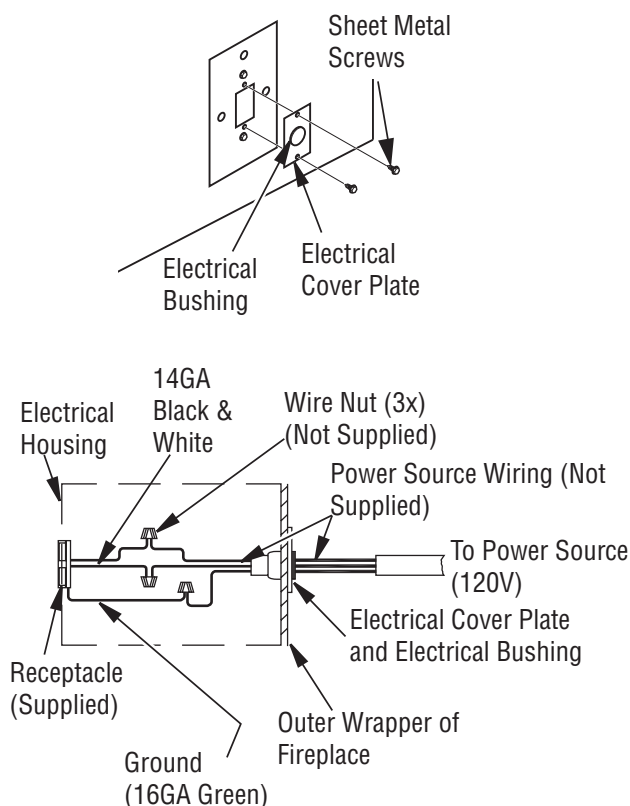

Figure 7 - Connecting Electricity
1. Remove electrical cover plate with bushing from left side of fireplace front by removing 2 sheet metal screws as shown in Figure 7.
3. Slide all wiring connections in electrical housing as shown in Figure 7.